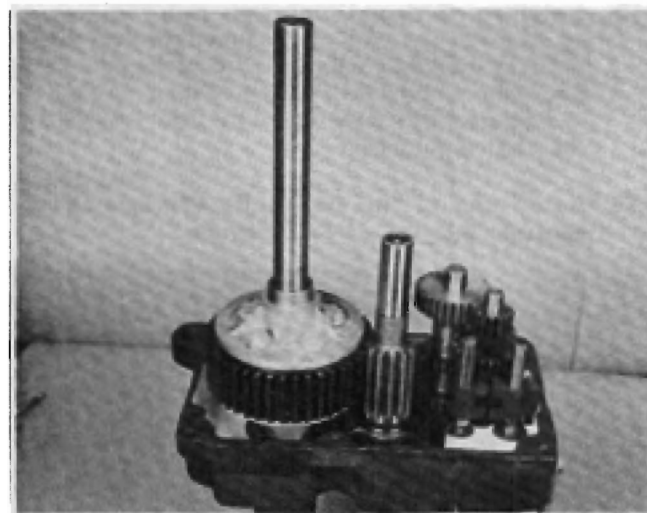

FIGURE 19
18. Install the differential and axle assembly with the long end cap and the retaining bolt nuts **down** into the right hand case. Figure 19.
21. Install the six (6) $\frac{3}{8}$ " x 16 bolts and nuts and tighten all bolts evenly to avoid distortion.